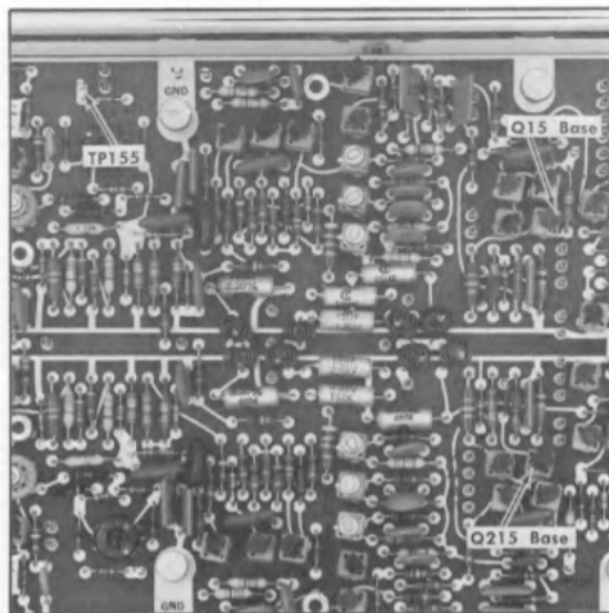

Fig. 7-7. Type 356 test points for adjustment of Memory Gate Width controls.
d. Refer to Fig. 7-7 for the Type 356 test points located on the instrument left side. Controls are shown in Fig. 7-4A. Connect the test oscilloscope external trigger 1X probe tip to TP155. Connect the vertical 10X probe tip to the Q15 base at R13.
c. Connect the test oscilloscope $10\times$ probe to Q15 base (or Q215 base for Channel B) shown in Fig. 7-7.